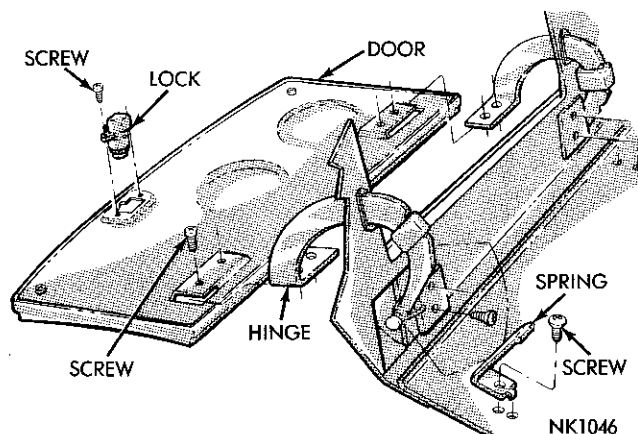

Fig. 41—Glove Box Door (Imperial)
(1) Remove the glove box door (Fig. 41) from the hinges.
(5) Install the mounting plate screw and the switch mounting nut.
(6) Install the glove box door (Fig. 41).
(7) Adjust the glove box door lock catch to effect a secure closing.